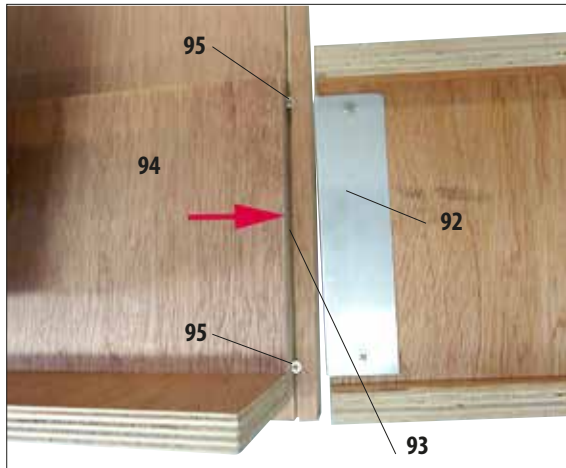

Fig. 9
- Hook these rails on the left and right with the panel (92) into the groove (93) of the pallet so that they are flush with the wooden board (94) that holds the instrument (Fig. 9).
- While doing so, make sure that the plate (92) is between the two screws (95) in the groove. These screws prevent the rail from being able to shift laterally.